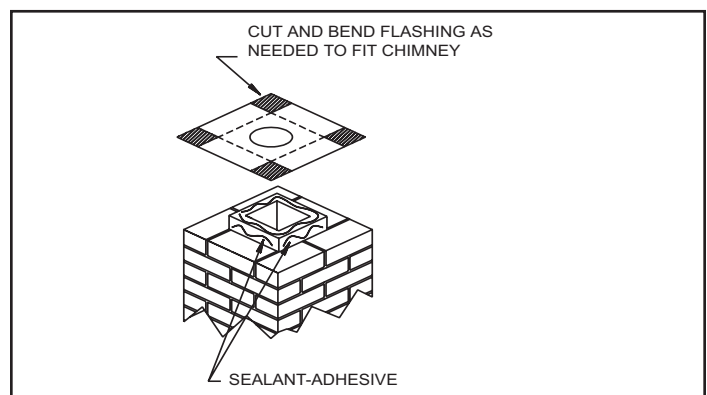

Figure 5.26
**Step 3** - Secure the flashing to the top of the masonry chimney using a bead of non-hardening sealant-adhesive. If the flashing is larger than the top of the chimney, cut and fold flashing as needed to fit chimney, Figure 5.26.